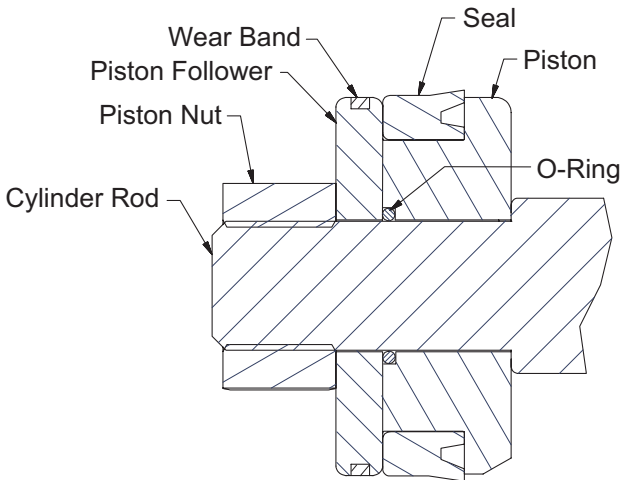

Figure 5-6, Piston Seal
2. Note the direction of the seal on the piston. Improper installation will result in poor performance. The cupped side or O-ring side of the seal should be facing the gland cap. (Figure 5-6)